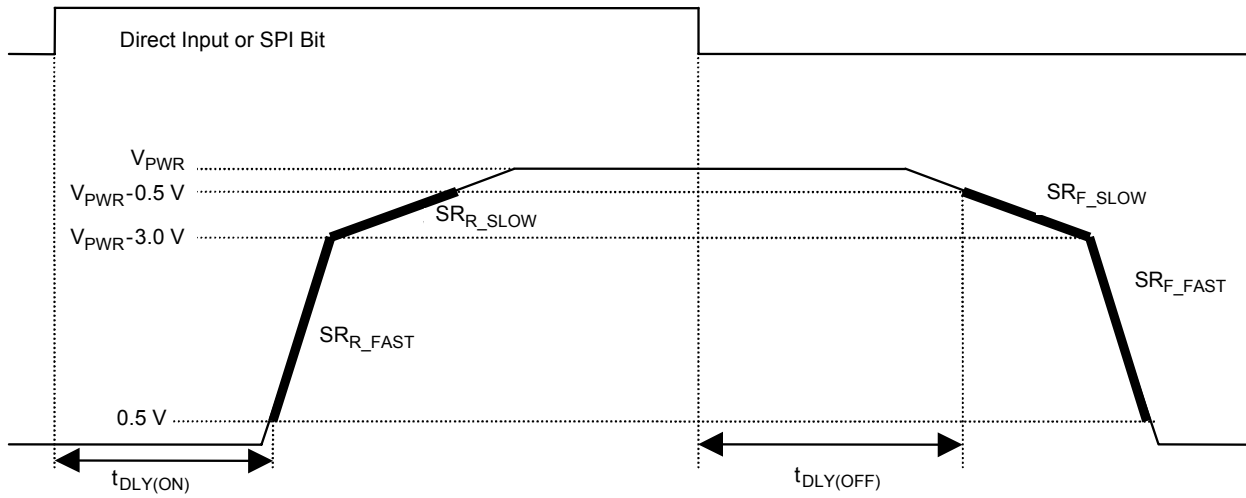

Figure 2. Output Slew Rates and Time Delays, High Side
- High-side output rise and fall fast slew rates measured across a 5.0 Ω resistive load at high-side output = 0.5 V to VPWR-3.0 V (see Figure 2, page 18). These parameters are guaranteed by process monitoring.
- High-side output rise and fall slow slew rates measured across a 5.0 Ω resistive load at high-side output = 0.5 V to VPWR-3.0 V (see Figure 2, page 18). These parameters are guaranteed by process monitoring.
- High-side output turn-ON delay time measured from 50% of the rising IHS to 0.5 V of output OFF with RL = 27 Ω resistive load (see Figure 2, page 18).
- High-side output turn-OFF delay time measured from 50% of the falling IHS to VPWR-2.0 V of the output OFF with RL = 27 Ω resistive load (see Figure 2, page 18).